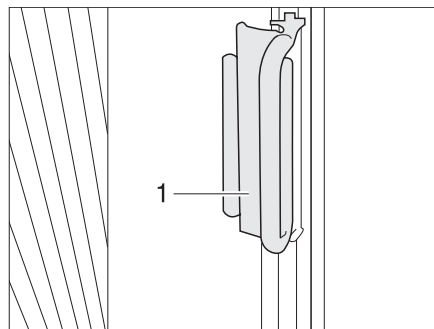

Fig. 31 Locking mechanism for Roman shades on driver's/front passenger's windows
- On the Roman shades for the driver's and passenger's window, push the handle (Fig. 31,1) onto the cap. The Roman shade is secured.